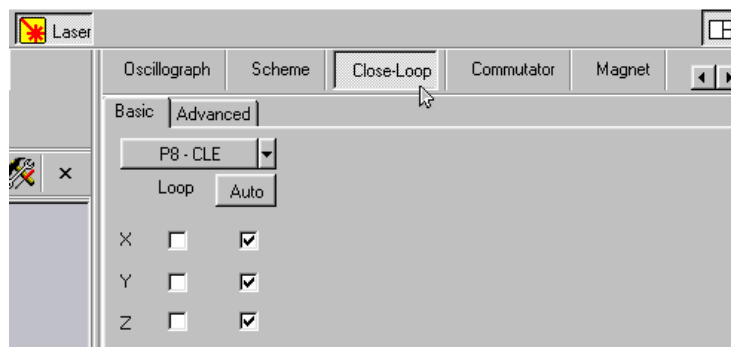

Fig. 2-16
3. Click «**Close Loop**» (Fig. 2-16)
4. Select the «**Basic**» tab (Fig. 2-16)
5. Make sure the automatic adjustment option for X, Y and Z is selected (i.e. three checkboxes under the “**Auto**” button are checked as shown on Fig. 2-16)
2. Click «**Close Loop**» (Fig. 2-16) and select the «**Basic**» tab (Fig. 2-16)